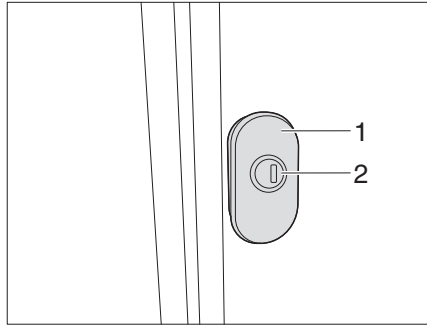
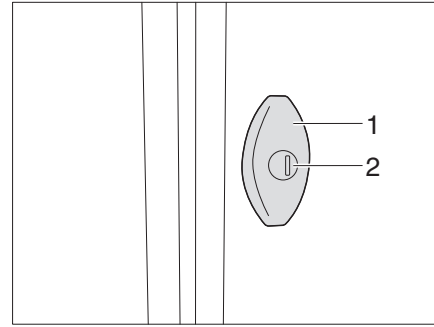

Fig. 52 Turnbuckle lock (variant 1)
Fig. 53 Turnbuckle lock (variant 2)
- Insert the key into the locking cylinder (Fig. 52/ Fig. 53,1) and turn a quarter turn. The flap lock is unlatched.
- Pull on the turnbuckle lock (Fig. 52/ Fig. 53,2) and rotate anticlockwise through 180°. The external flap is open.